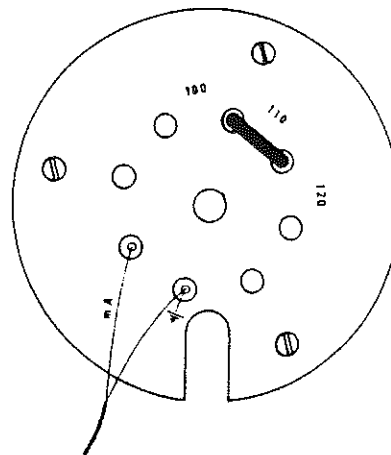

Fig. 4.4
- 12) Connect a DC MA meter to terminal MA and \perp (fig 4.4)